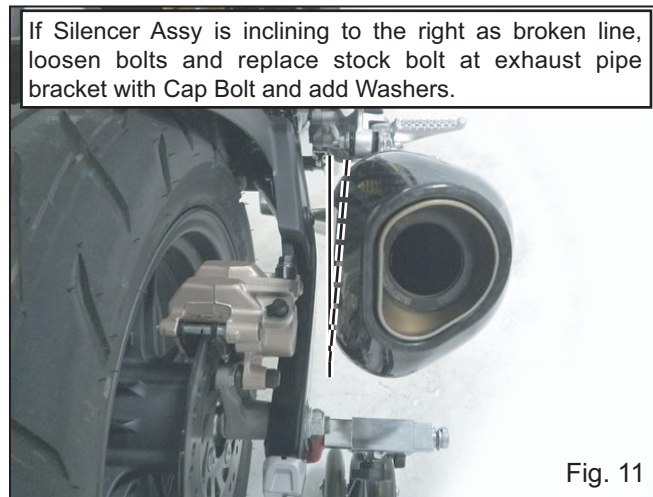

Fig. 11
- 9) Check the angle of Silencer Assy against swing arm. If it is inclining to the right, loosen stock bolts and stock nuts tightened at Step 8). Replace stock bolt at exhaust pipe bracket with Cap Bolt M8x20 and mount exhaust pipe bracket using Washer M8x25x3.2 and Washer M8x20. (See Fig. 11 & 12)